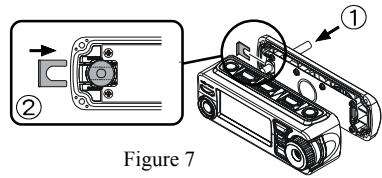

Figure 7
6. Insert the supplied 3-m Connection Cable from the rear side of Rear Case (Figure 7-①), and then attach the Connection Cable to the Rear Case using the previously removed Binding Plate (Figure 7-②).